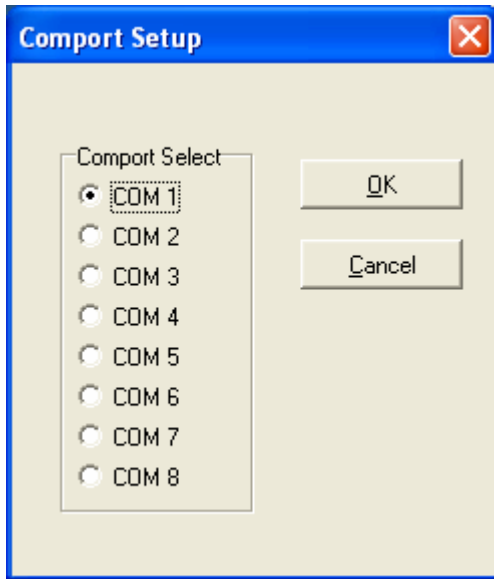

Figure 7
4. Select “Setup/ Communication Setup” in the menu bar to open the “Comport Setup” window. (See figure 7)